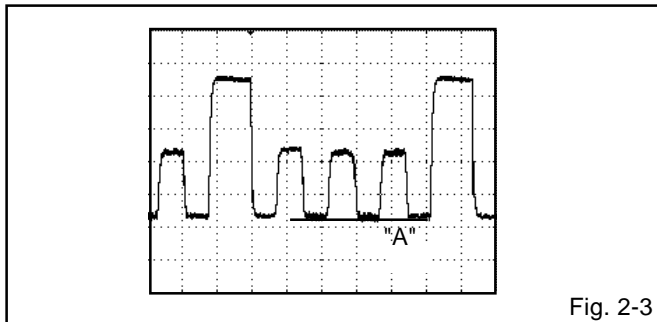

Fig. 2-3
5. Press the RIGHT/LEFT button on the remote control until the section "A" becomes a straight line. **(Refer to Fig. 2-3)**
10. Press the RIGHT/LEFT button on the remote control until the section "A" becomes a straight line. **(Refer to Fig. 2-3)**